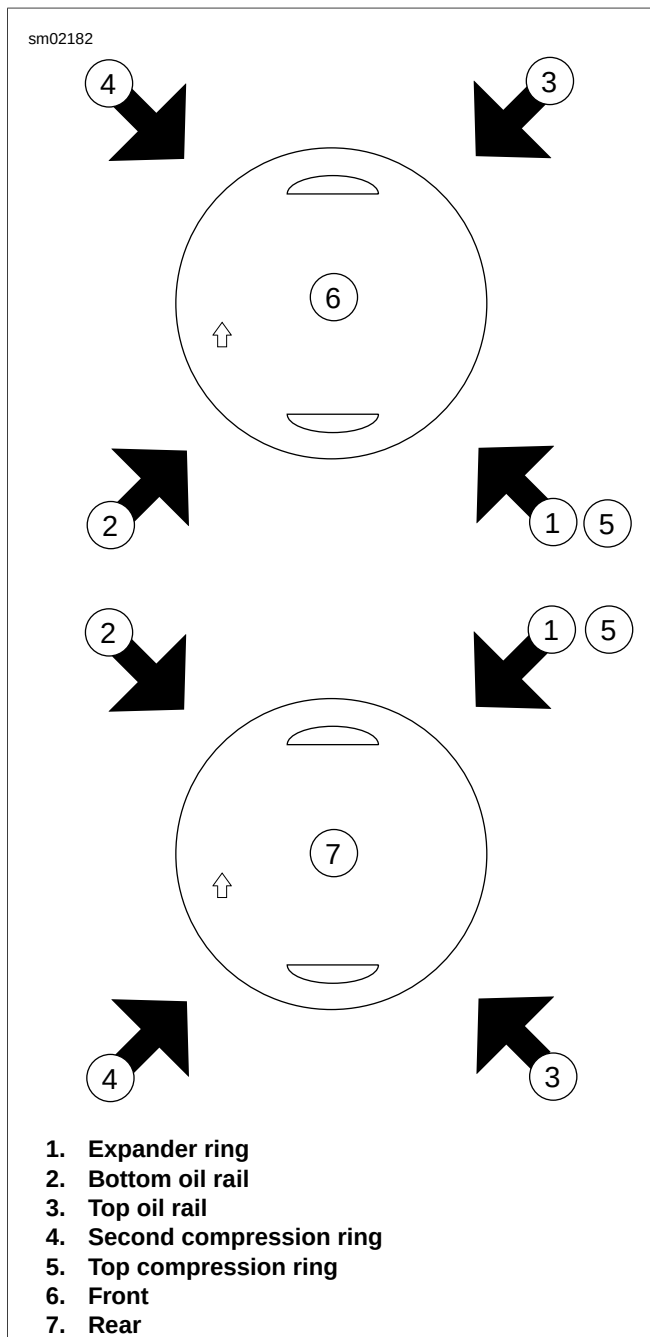

Figure 3-106. Piston Ring Gap Alignment
8. See Figure 3-106. Verify the ring gaps are still properly staggered.